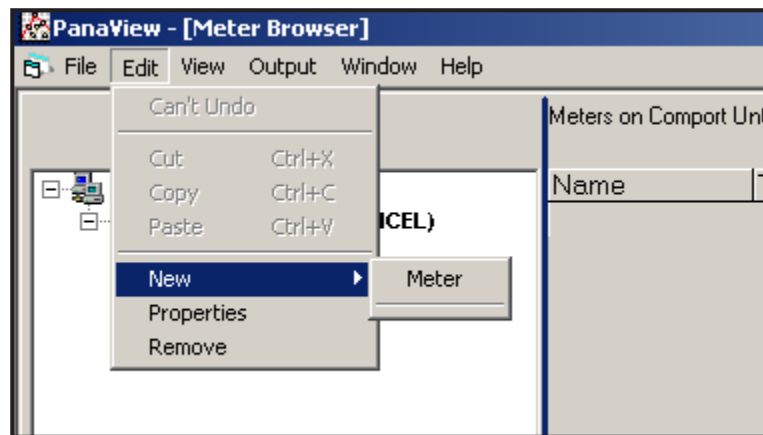

Figure 21: “*New*” Option in the “*Edit*” Menu
2. Click on the “*New*” option in the “*Edit*” menu (see Figure 21).